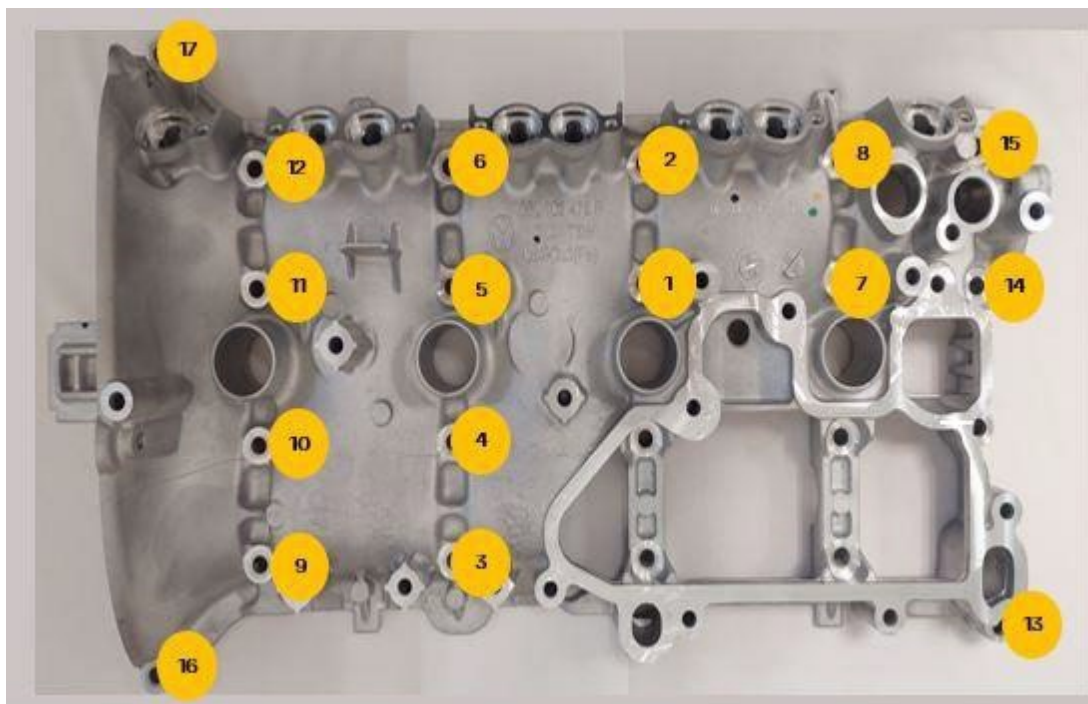
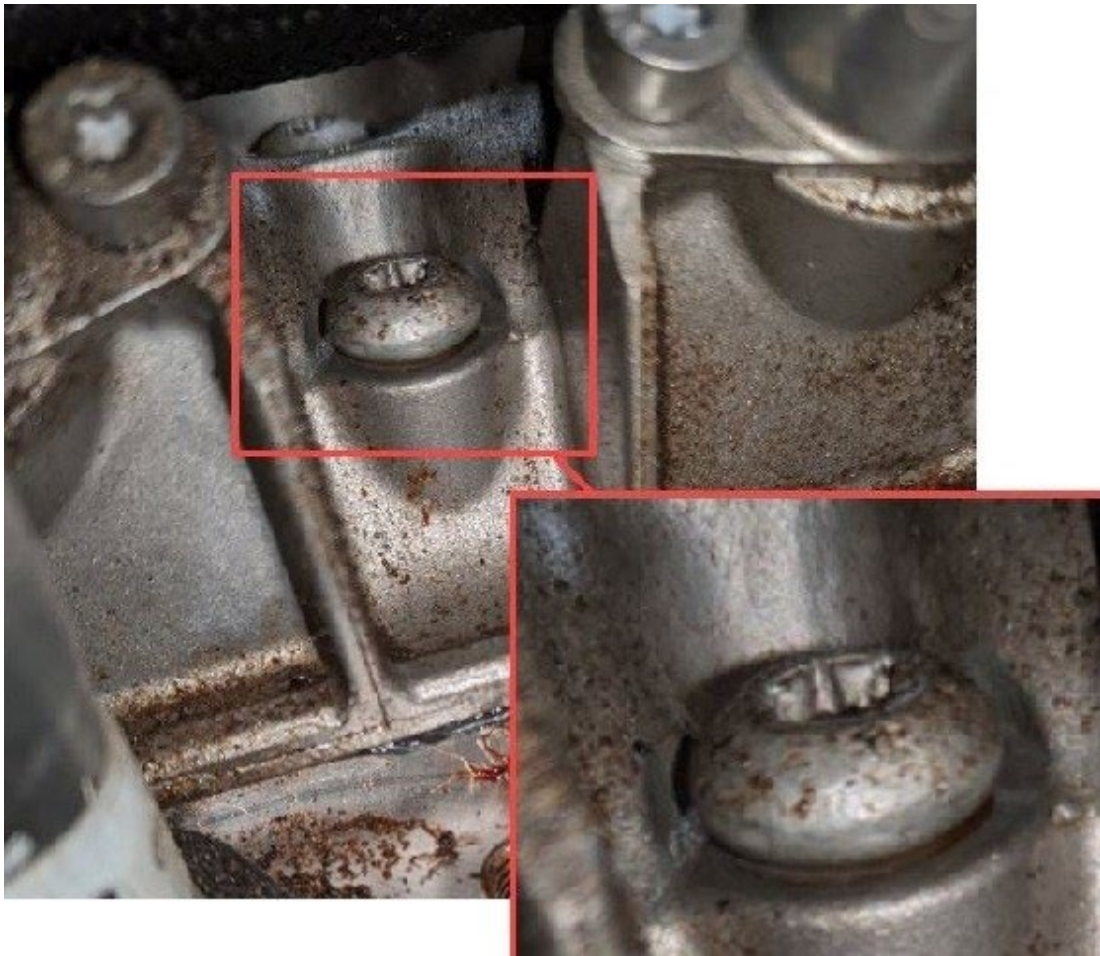

**Figure 1:** Sequence for checking torque (18 bolts).
*Figure 2: Sequence for checking torque (17 bolts).*
- After replacing the affected bolt(s), tighten the remaining bolts to 14 Nm in the sequence shown in the illustration (Figure 1, and Figure 2) using a torque wrench.